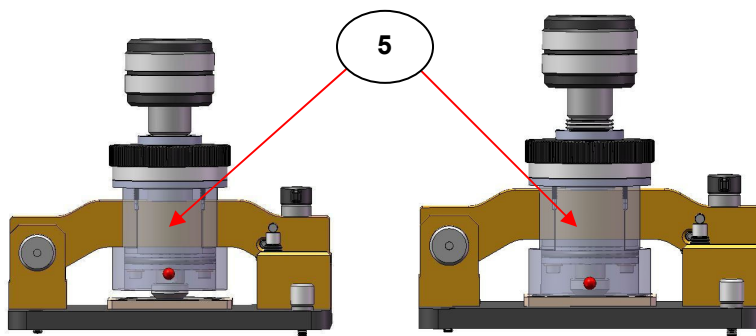

Fig 5. Envirochamber Golden Gate™ Perspex Cap in Raised (Left) and Lowered (Right) Position
The difference between the Perspex cap (5) being fully raised and fully lowered can be seen in Fig 5.